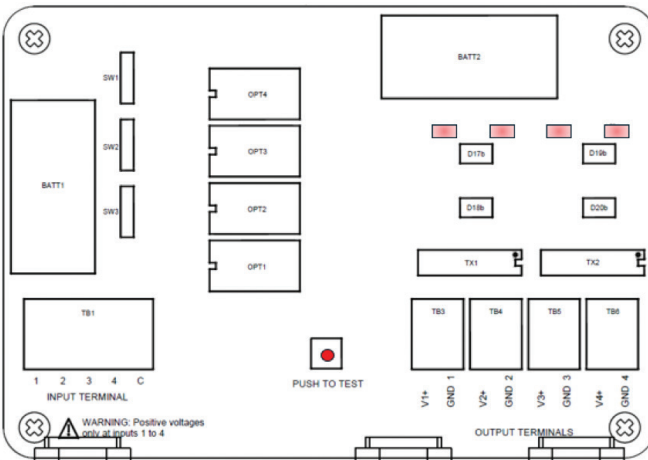

Figure 2 –Electrical Connectivity
The unit is comprised of four (4) independent circuits that provide safe isolated current sinking pulses. Each input can be connected to up to four (4) isolated outputs or a combination of them, configurable by means of internal switches SW1, SW2 and SW3. Figure 2 refers to location. During an input pulse, a “push to test” button can be operated to show the channel(s) selected by way of an LED.
Using either or both of the two cable glands on the right hand side, use multi-way cable to wire to the output (O/P) terminal blocks. Take the O/P signal pulses to the customers logger/BMS/AMR. Each Terminal block O/P 1 to 4 is an open collector type output. One I/P can be connected to up to four (4) isolated circuit O/P or a combination of them, configurable by the customer by means of internal switches SW1, SW2 and SW3. Figures 2 and 3 refer.
Check that incoming signals are connected correctly and switch positions are set to activate the desired outputs. Figures 2 and 3. Replace the cover. By holding down the “Push to Test” button during an input pulse, LEDs will operate for each active output channel. This confirms correct switch position or otherwise.